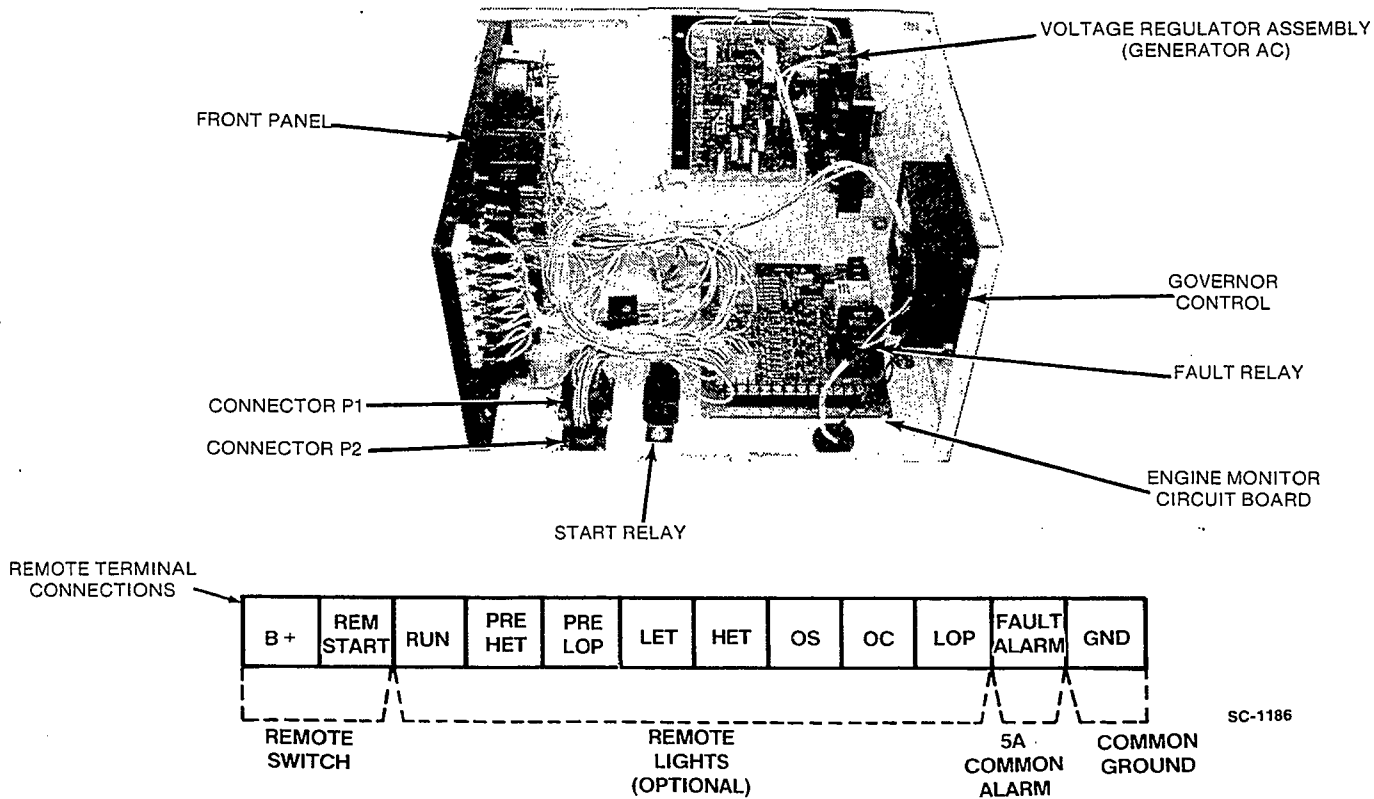

FIGURE 22. CONTROL PANEL INTERIOR COMPONENTS AND REMOTE CONNECTIONS
**Fault Relay**, when energized, turns the engine off and prevents a restart until the fault condition is corrected and the Reset switch pressed. The relay can also operate a remote DC alarm (5 ampere maximum) connected to the Fault terminal of the Engine Monitor Circuit Board (Figure 22).